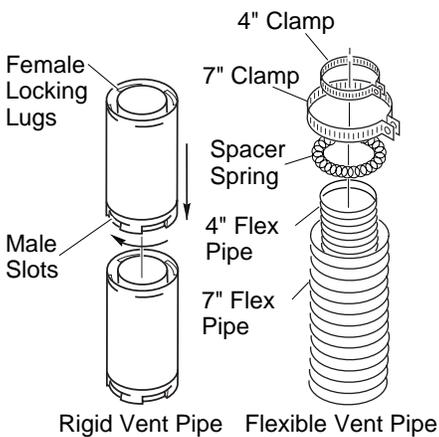

Figure 11 - Vent Pipe Connections
**Twist-lock Procedure:** The female ends of the pipes and fittings have four locking lugs (indentations). These lugs will slide straight into matching slots on the male ends of adjacent pipes and fittings. (All connections must be sealed with high temperature silicone sealant as specified in the second warning statement on page 7.) Push the pipe sections together and twist one section clockwise approximately one-quarter turn until the sections are fully locked. See Figure 11, page 9. *Note:* Horizontal runs of vent must be supported every three feet. Use wall straps for this purpose.
Flexible vent pipe must be installed with spacer springs every 12". See Figure 11, page 9. All connections must be clamped tightly and sealed with high temperature silicone sealant as specified in the second warning statement on page 7.
2. Assemble the desired lengths of pipe and elbows necessary to reach from the fireplace flue up through the firestop. All connections must be sealed with high temperature silicone sealant as specified in the second warning statement on page 7. Be sure all pipe and elbow connections are fully twist-locked (see Figure 11, page 9).